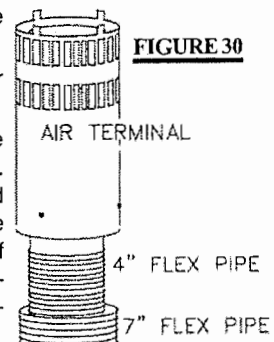

FIGURE 30
2. Fasten the roof support to the roof using the screws provided. **FIGURE 30.** The roof support is optional. In this case the venting is to be adequately supported using either an alternate method suitable to the authority having jurisdiction or the optional roof support.